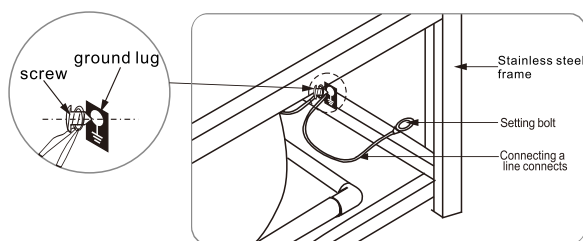

Figure 15
2. The green and yellow wires from the water pump are the earth wires with the short one connected to the stainless steel stand and the other end to the grounding conductor by the user (as shown in Fig. 15).